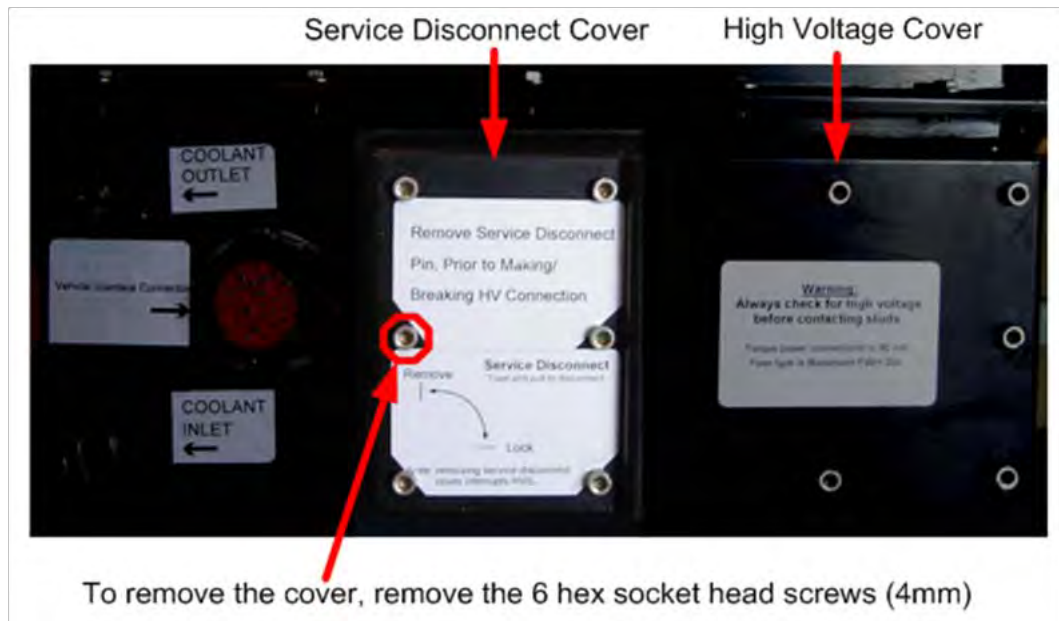

Figure 60: Service disconnect cover and attaching screws
- Using a 4mm hex driver, remove the 6 service disconnect cover screws from the front of the battery pack. (Figure 60).
- Remove the service disconnect cover (Figure 60)